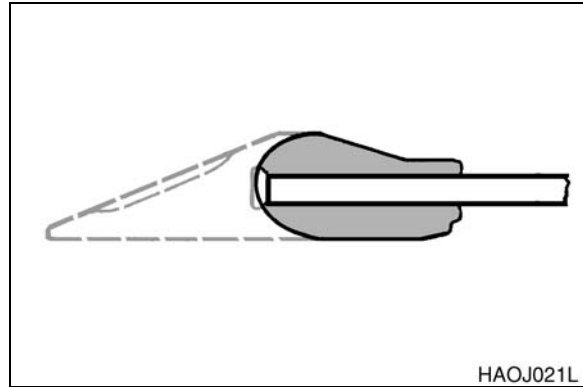

Figure 22
2. Do not allow replaceable bucket teeth to wear down to the point that bucket adapter is exposed. (Figure 22)